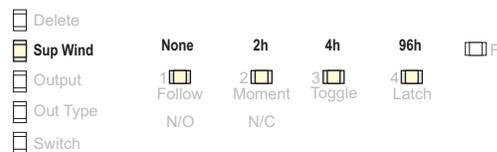

Figure 4 Select the supervision window
- Use the advance button to choose a supervision window of None, 2h, 4h and 96h (Fig. 4).